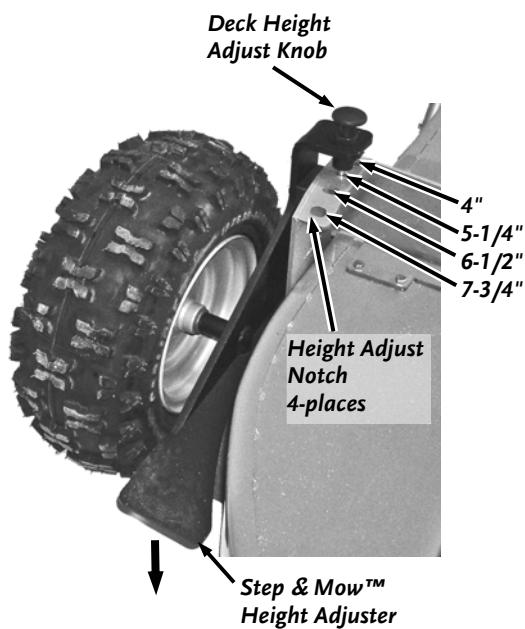

Figure 16
1. To change the cutting height, apply foot pressure to the Step & Mow™ Height Adjuster (**Figure 16**) and at the same time, lift up on the spring loaded Deck Height Adjust Knob and re-position the Knob to the desired height in one of the four Height Adjust Notches on top of the Deck. Repeat this for the opposite side of the Deck.